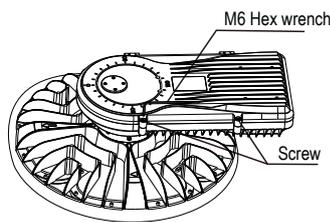

Figure 2
- The LED driver can be replaced or repaired by opening the driver box.(Figure 2)